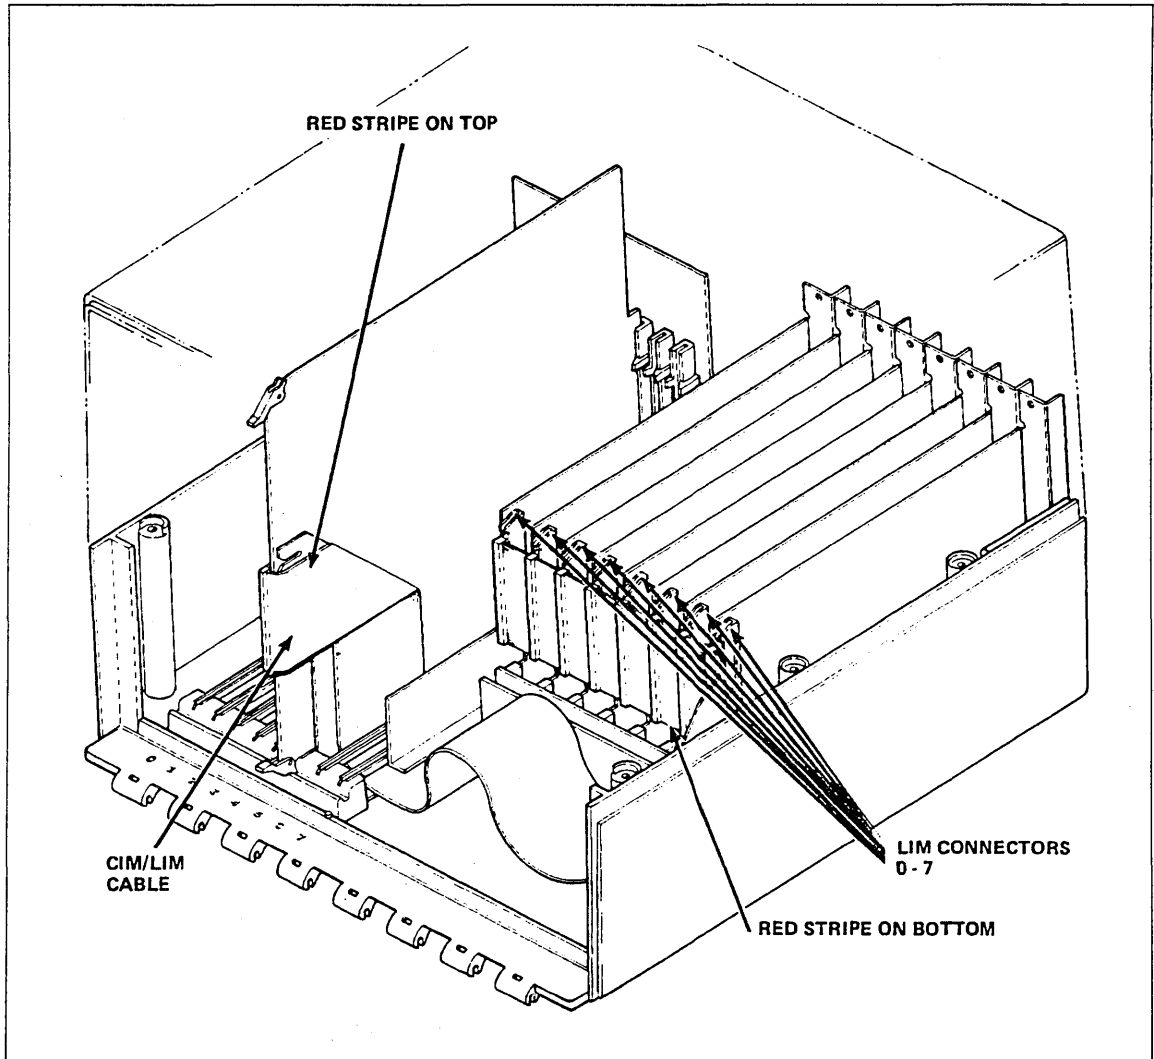

Figure 1-43. Installed CIM/LIM Cable
7. Verify that the cable is installed as shown in figure 1-43.